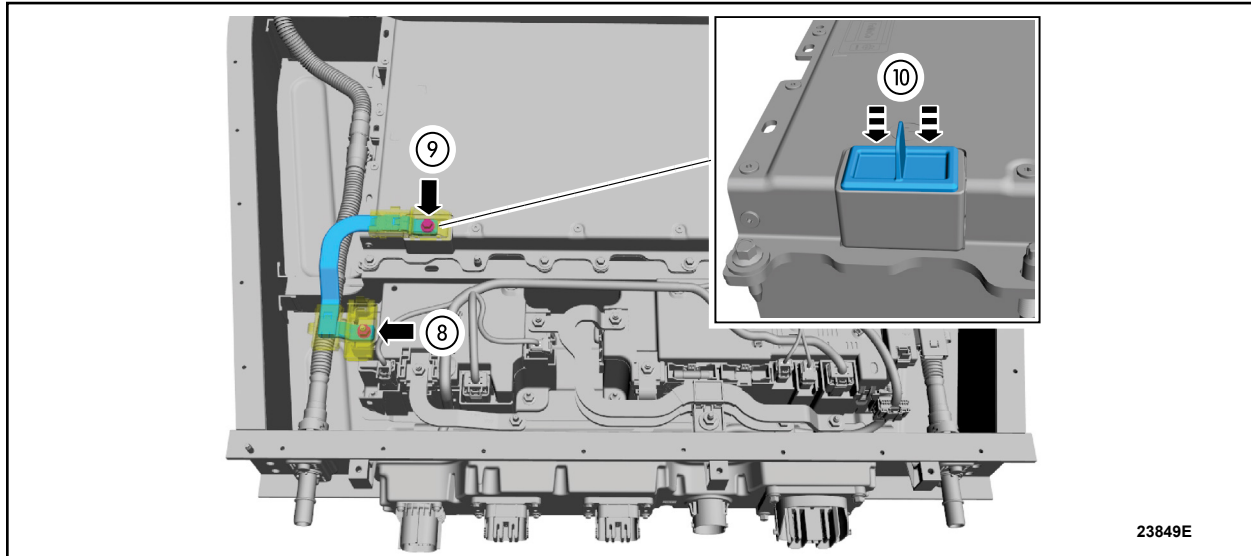

FIGURE 5
9. Open the terminal covers and remove the bolts. See Figure 5.
10. Remove the bus bar. See Figure 5.
11. Install the battery module terminal cover. See Figure 5.